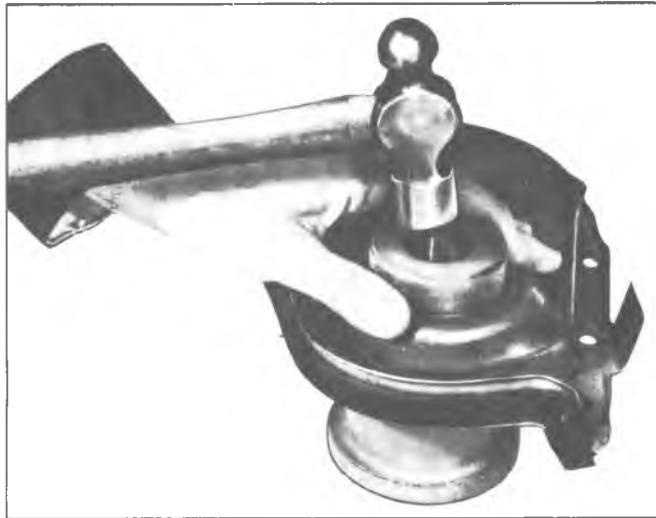

Fig. 22L—Installing Oil Seal (Cover Removed)
- Install new seal so that open end of the seal is toward the inside of cover, and drive it into position with Tool J-23042 (fig. 22L).